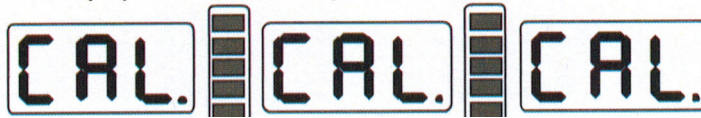

Fig. 9-1
2. Press D key and C key, ect figure 9-1, (lay down protect hood), press START key, going to next step, press STOP key or C key to exit.